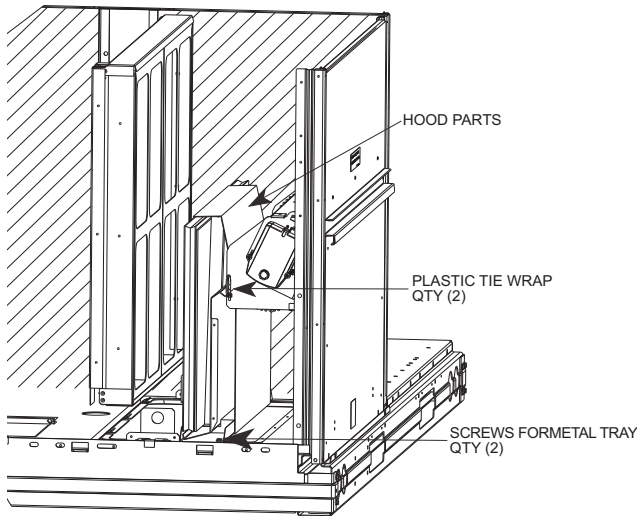

Fig. 13 — Economizer and Two-Position Damper Hood Parts Location
3. Locate the (2) screws holding the metal tray to the basepan and remove. Locate and cut the (2) plastic tie-wraps securing the assembly to the damper. (See Fig. 13.) Be careful to not damage any wiring or cut tie-wraps securing any wiring.